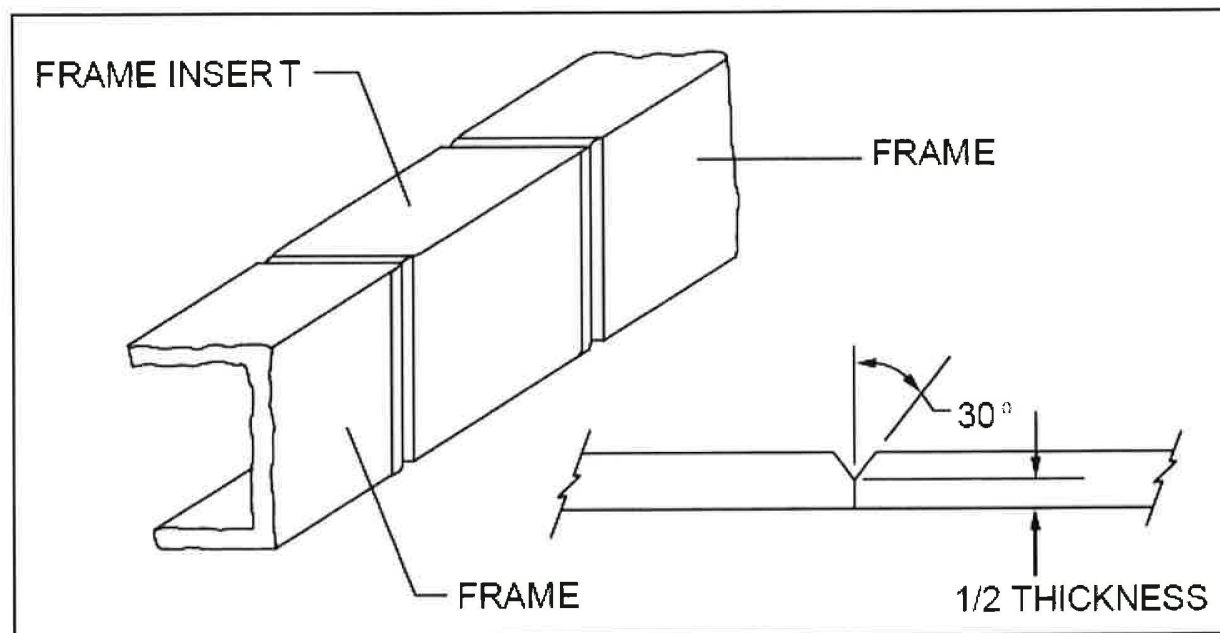

Figure 31 – Chamfered Frame Rails Prior to Welding
- Chamfer the outside edges of both the frame cut and the insert ends at a 30° angle, leaving half of the thickness. (See Figure 31)